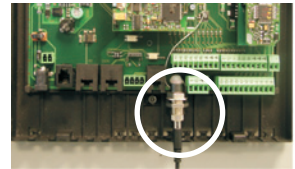

Figure 1
- 2 Connect the antenna to the appropriate socket (figure 1, white circle).